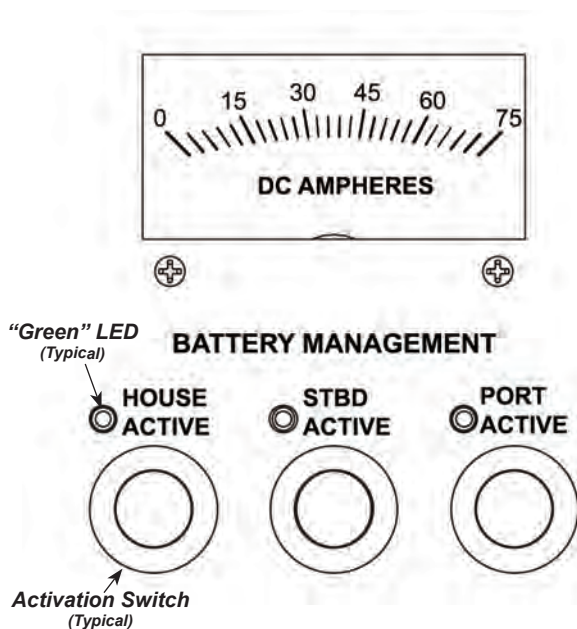

Figure H17: Battery Activation Switches
2. Depress and release the battery activation switches to the OFF position. The “green” LEDs are no longer lit indicating the batteries are not active. See Figure H17.
3. Place the House Battery activation switch on the 12VDC cabin panel to the ON position in order to start the generator. See Figure H17.